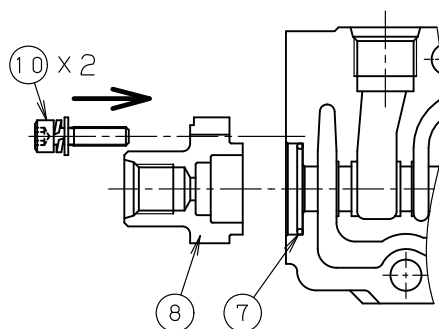

Fig.20 Pilot cover
■ Pilot cover (see Fig.20)
- ① Install O-ring (⑦) securely on the flange bottom of the body.
- ② Insert pilot cover (⑧) into the flange of the body.
- ③ Fasten 2 hex socket head bolts with washers (⑩) with specified torque with 4 mm hexagonal wrench.